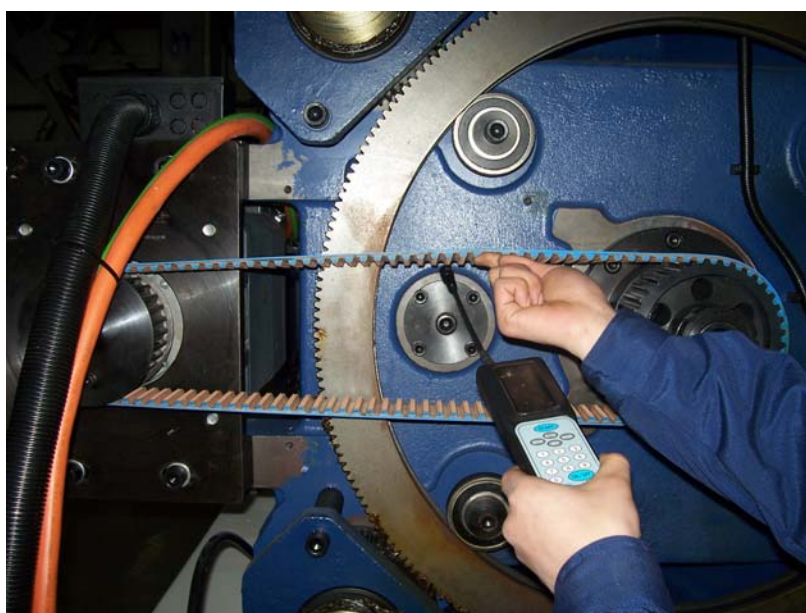

Fig 2.2.6(1) Test method of tensiometer
⑤ Put the professional tensiometer. See fig 2.2.6(1). (Tensiometer directions refer to appendix II) away from the synchronous-belt about 10mm, and the best position is in the middle of tow gears, then tension the belt by hands. The tensiometer displays tension values by measuring air vibration. Then compare to synchronous-belt tension-form (appendix I), to check if the belt tension is right or not.
⑥ If actual value is bigger, then it means the belt is too tight. First, loosen flange installation bolts; second, loosen tension adjusting bolts, at last do remember to tighten flange installation bolts before testing again. If the value is smaller, then it means the belt is to loose. First, loosen flange installation bolts; second, screw down the tension adjusting bolts; at last do remember to tighten flange installation bolts before testing again. Adjust the tension until its value is equal to the standard.
⑦ If the value is right, then tighten nuts first, and then screw down flange installation bolts.